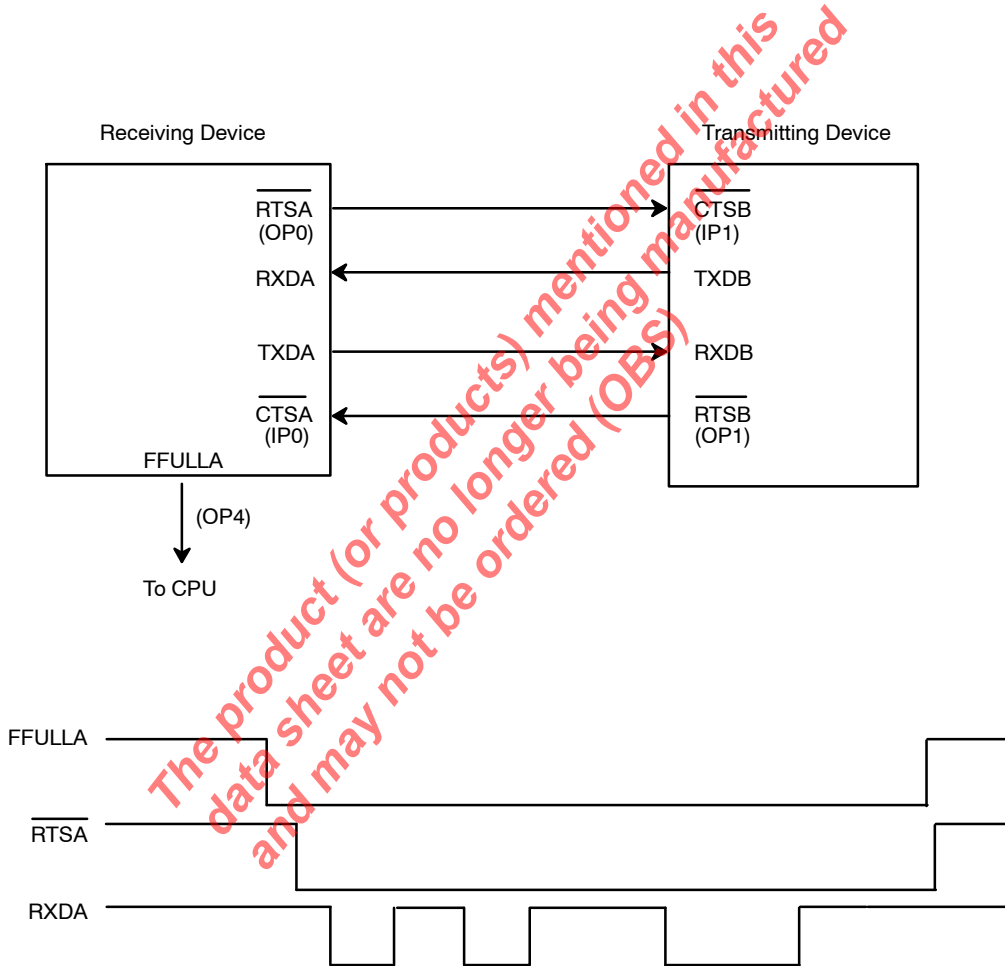

Figure 42. Block Diagram and Timing Sequence of Two DUARTs Connected in the Receiver-RTS Controlled Configuration
If this bit is a 0, the channels -CTSn input (IP0 for Channel A, or IP1 for Channel B) has no effect on the transmitter. If the bit is a "1", the transmitter will check the state of its -CTSn input each time it is ready to send a character. If -CTSn is low (or "true"), the character is transmitted. If -CTSn is high (or negated), TXDn remains in the marking state and the transmission of the next character is delayed until -CTSn goes low. Changes in the -CTSn input while a character is being serialized do not affect transmission of that character. This phenomenon is further illustrated in Figure 42 and Figure 44.
In this mode, the Receiver has the ability to automatically negate the RTS output (to the Transmitting device). Specifically, this mode allows the Receiver to negate the RTS signal if its RHR is full; and, is thereby, very effective in preventing Receiver Overrun Errors. *Figure 42* presents a diagram of an example illustrating the operation of the Receiver-Controlled RTS configuration.
*Figure 42* shows two DUART devices, a “Receiving Device” and a “Transmitting Device”. These devices are labeled such because of their role in this example transfer of data between them. This example is going to ignore, for the time being, the fact that the “Receiving Device” has a transmitter and that the “Transmitting Device” has a receiver. Further, this example, is using Channel A of the “Receiving Device” and Channel B of the “Transmitting Device”.
*Figure 42* shows the RXDA input receiving data after -RTSA has been asserted. However, in this example, this newly received character now causes RHRA of the “Receiving Device” to be full. The FFULLA indicator status is now asserted and RTSA (of the “Receiving Device”) is now automatically negated via the Receiver control over the RTS signal. Therefore, transmission from Channel B of the Transmitting Device is, once again, inhibited.